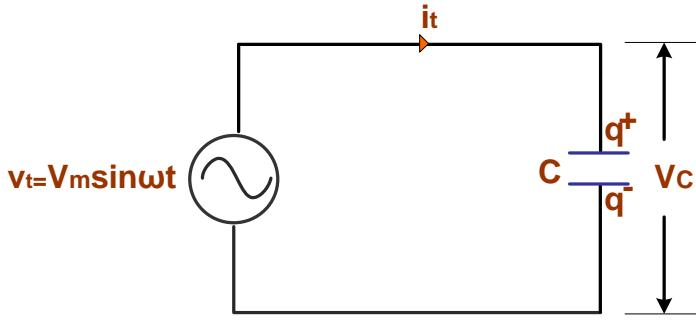

Figure 2.19 Pure Capacitor Connected AC Supply
- The Fig. 2.19 shows a capacitor of capacitance C farads connected to an a.c. voltage supply  $v_t = V_m \sin \omega t$ .
- As show in the Fig. 2.19 voltage source